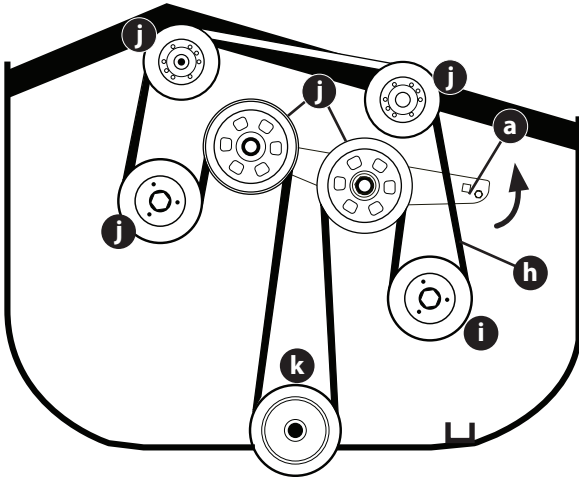

Figure 42
- Using a 1/2" (12.7 mm) drive in the idler pulley bracket (a), turn the wrench towards the front of the mower and slide the PTO drive belt (h) off the right spindle pulley (i) (Figure 42).
- While holding the idler pulley bracket, loosen the PTO deck belt from around the pulleys (j) and PTO clutch (k) and slide the belt away from the pulleys (Figure 42).